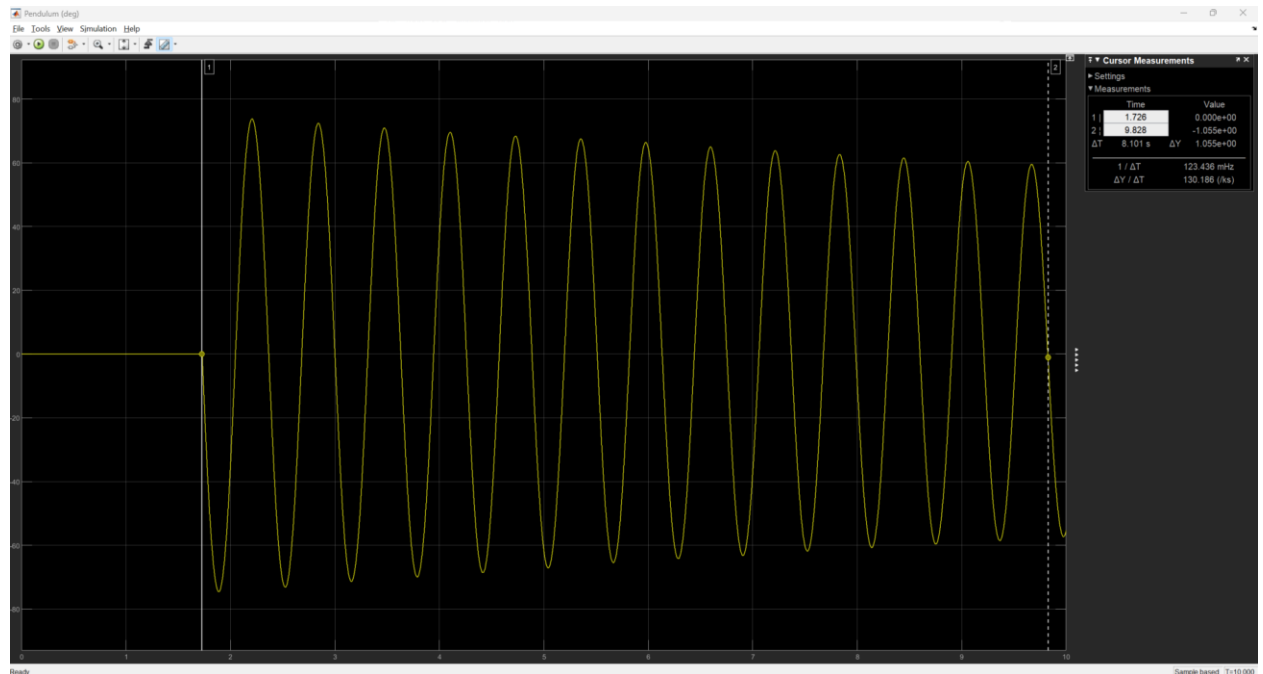

Figure 4: Sample response of perturbed pendulum.
19. Measure the number of cycles ( $n_{cyc}$ ) and the duration of the cycles ( $\Delta t$ ) from the pendulum position scope. Your response should look similar to Figure 4: